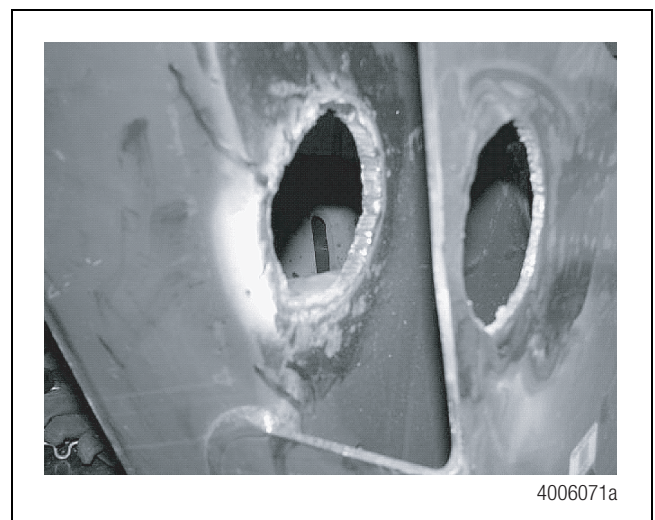

Figure 7
9. Use a suitable tool to cut on the marks made earlier around the alignment washers. Cut the holes at least 3.25-inches (89 mm) in diameter. Remove all slag and sharp edges from the inside and outside side plates. Figure 7.